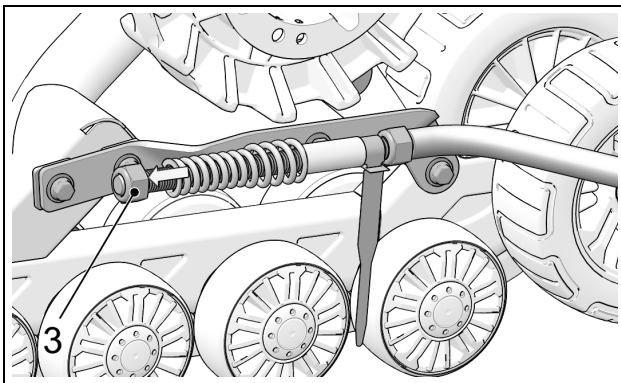

Figure 11
- Loosen the nut (3) compressing the spring of the stabilizing rod. See Figure 11.